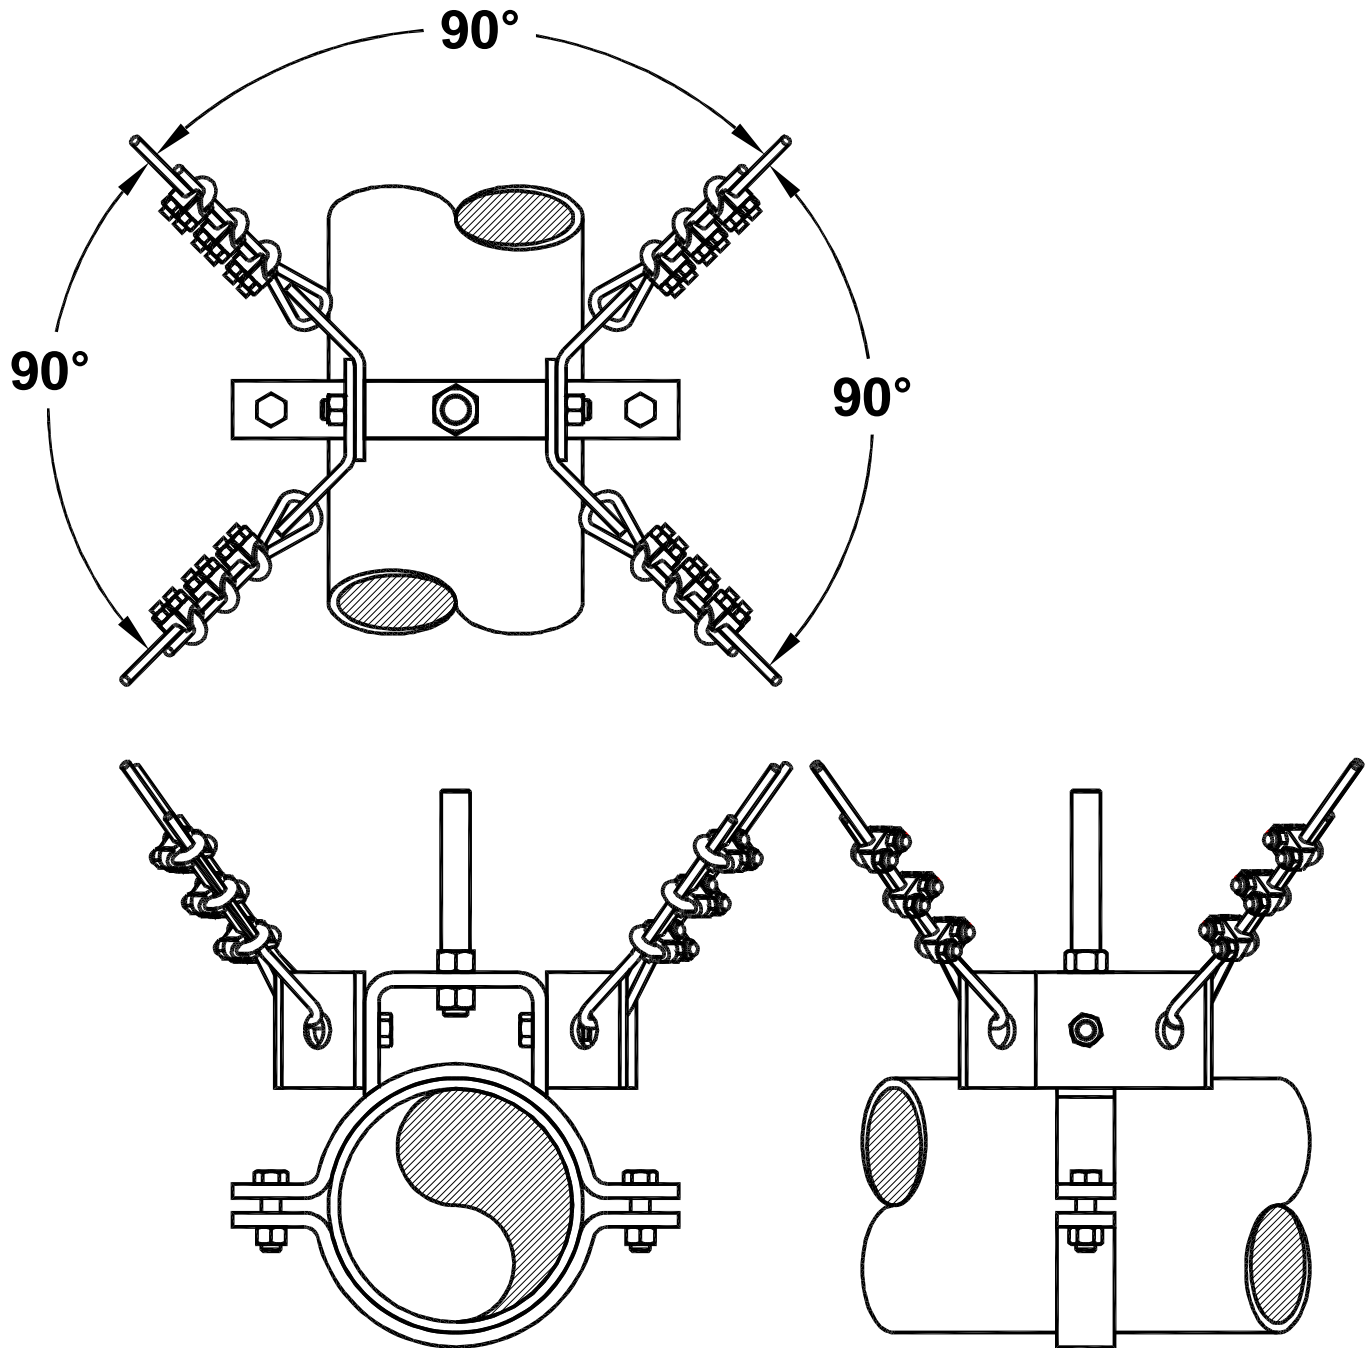

Figure I6-32; KSCC Brackets Attached to a Commercially Available Clamp Type Clevis Hanger – Combined Transverse and Longitudinal (TL) Restraints
Figure I6-32 shows how combined transverse and Longitudinal (TL) restraints may be attached to this type of clevis hangers.